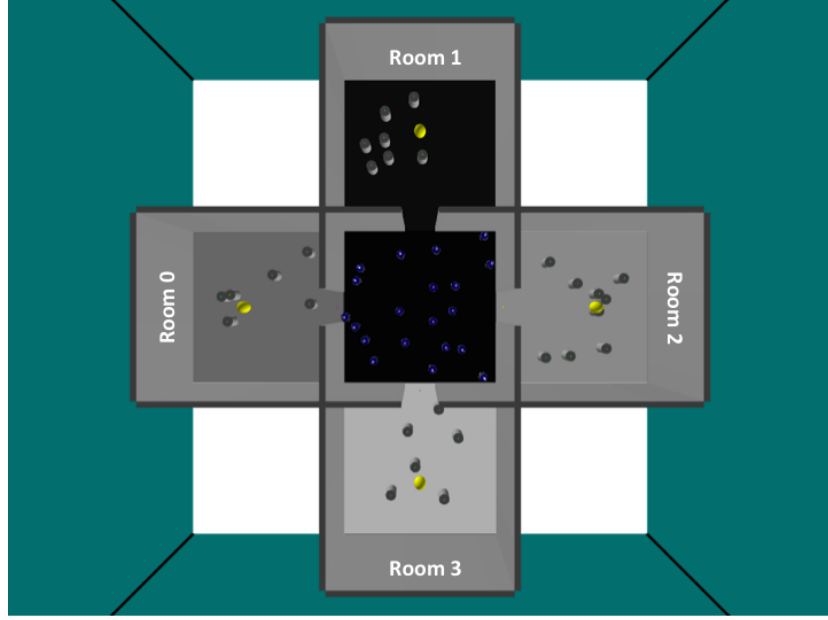

Figure 1: A top view of the environment.
Figure 1 shows a top view of the environment composed of four target rooms and a central room. The central room has no light and black ground. Each room has a different quality which may vary in each experiment and is determined by the composition of the three metrics  $v_G$ ,  $v_L$  and  $v_O$  (see Equation (1)). The quality of the four target rooms of the example illustrated in Figure 1 are given in the Table 1. The best is room is room number 2 with the evaluation:  $v_2 = 0.531857$ .
Table 1: Target-room's quality values of the example depicted in Fig 1.